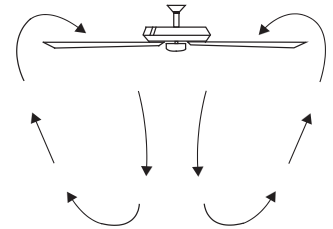

Fig. 12
12. On this setting the fan will turn counter-clockwise. Use this function during cooler weather to re-circulate air (Fig. 12).